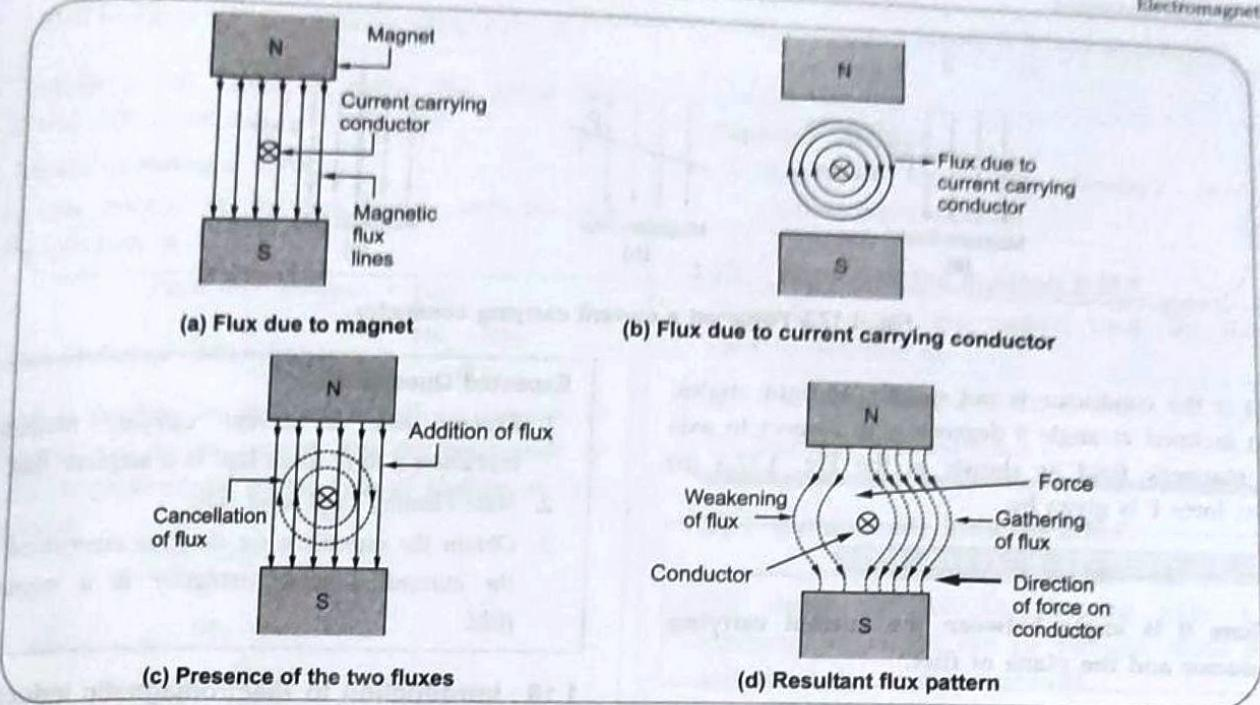

Fig. 1.17.1 Interaction of the two flux lines to produce force on conductor
- The entire process is shown in the Fig. 1.17.1 (a), (b), (c) and (d). (Refer fig. 1.17.1 on next page)